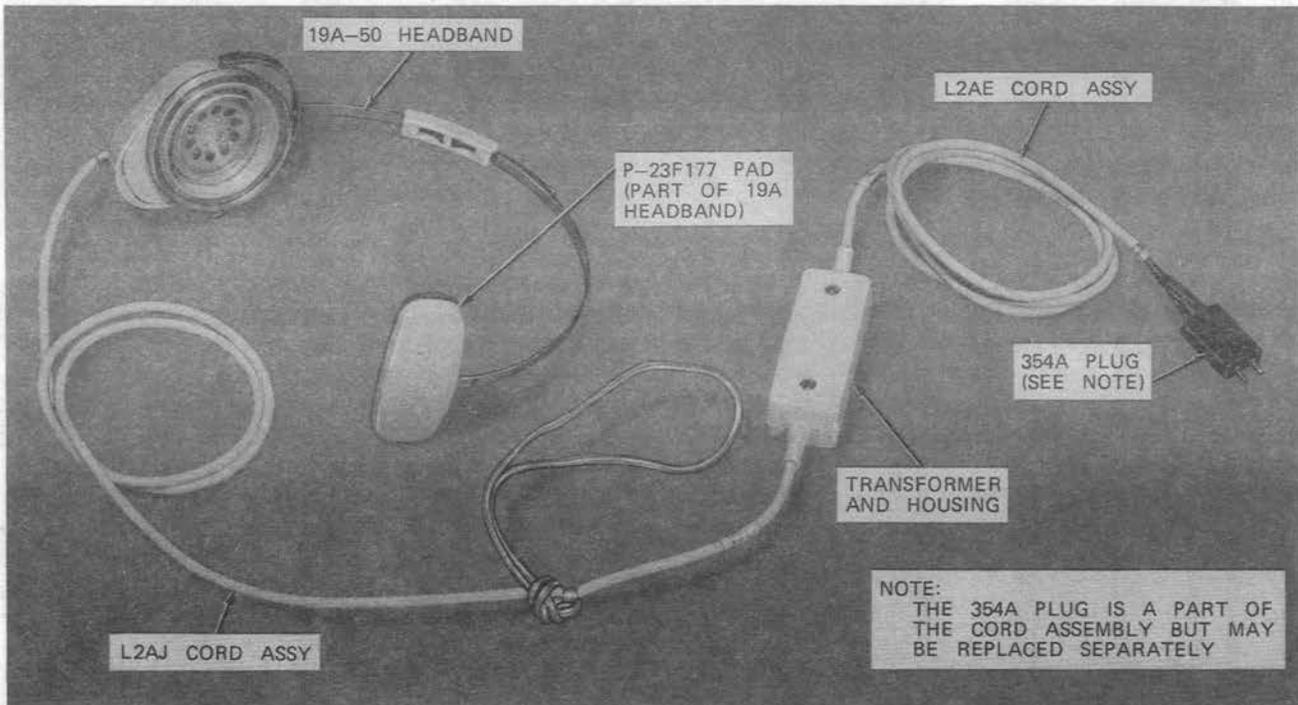

Fig. 2— 1023A-Type Headset
4.13 L4CJ Cord ♦(1026A-Type)♦: To replace the L4CJ (Fig. 20) cord as shown in Fig. 2, proceed as follows: